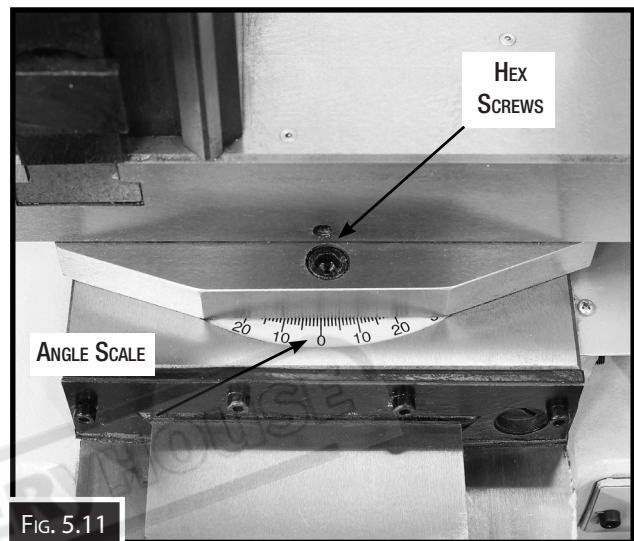

FIG. 5.11
1. Loosen the two hex screws at the base of the compound slide. (One at the front and one at the back of the compound slide.) (Fig 5.11).